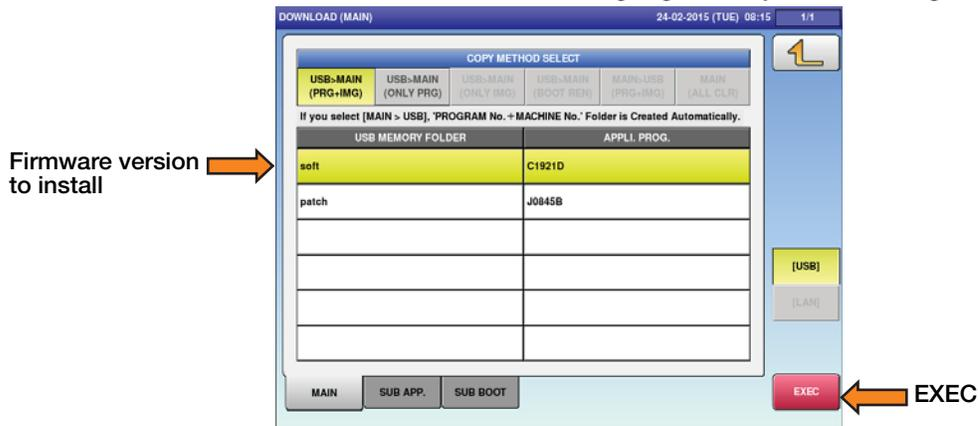

Figure 2-9. Select the Firmware File to Install
10. Press the firmware version to be installed. It will be highlighted in yellow. See Figure 2-9.